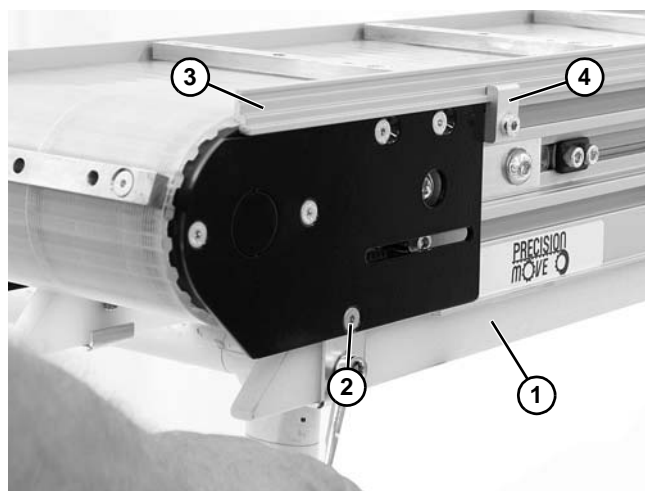

Figure 29
1. For fixture belt conveyors, on the opposite side of the gearmotor, remove the UHMW return rail (**Figure 29, item 1**) by removing support clip screw (**Figure 29, item 2**).
2. Remove guiding (**Figure 29, item 3**) by removing clip (**Figure 29, item 4**) on both ends of conveyor.